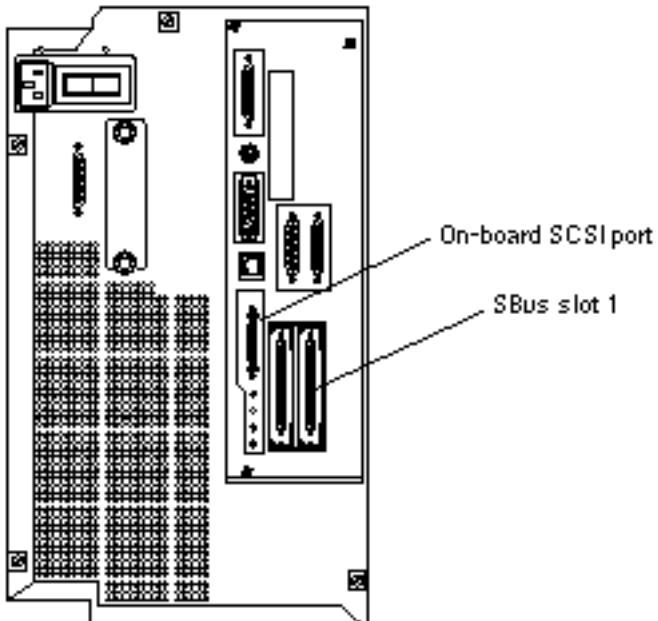

Figure 1–4 Connecting External Peripherals to the Netra 150 Server
- If you are connecting an external *tape* enclosure to the Netra NFS version of the Netra 150 server, connect the SCSI cable from the external tape enclosure to the on-board SCSI port at the rear of the Netra 150 server (Figure 1–4).
- If you are connecting an external *disk* enclosure to the Netra NFS version of the Netra 150 server, connect the SCSI cable from the external disk enclosure to the Fast-Wide SCSI card installed in SBus slot 1 at the rear of the Netra 150 server (Figure 1–4). If you do not have a Fast-Wide SCSI card installed in SBus slot 1, follow the instructions in “Installing an SBUS Card” on page 55 to install a Fast-Wide SCSI card in SBus slot 1, then return here. Do *not* connect the external disk enclosure to any SCSI port other than the Fast-Wide SCSI card installed in SBus slot 1.